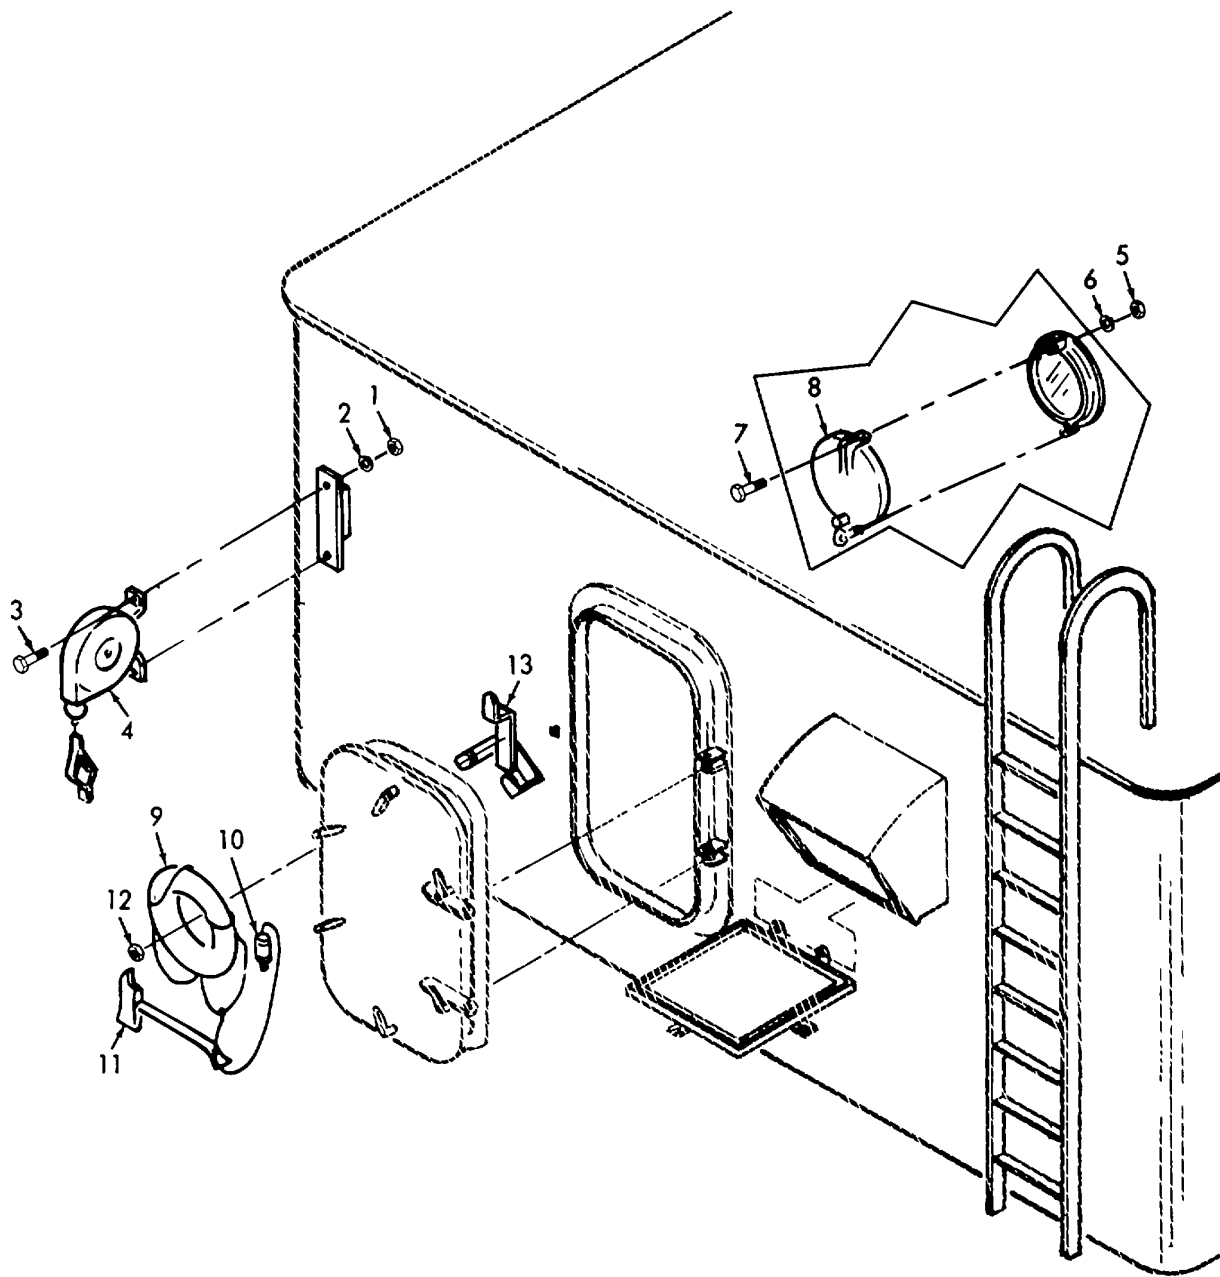

Figure 4-1. Frame and Exterior Covering, Removal/Installation.
**4-5. FRAME AND EXTERIOR COVERING - Continued.**a. Removal. (Refer to figure 4-1).
- (1) Remove two nuts (1), two lockwashers (2), two bolts (3), and grounding reel (4).
- (2) Remove thirty-six nuts (5), thirty-six lockwashers (6), thirty-six bolts (7), and three port lights (8).
- (3) Remove life ring (9), marker light (10), and axe (11) from bracket.
- (4) Remove four nuts (12) and bracket (13).